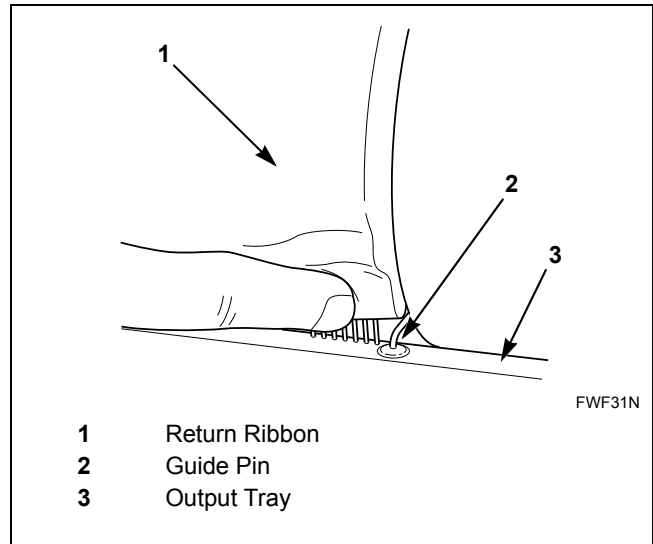

Figure 36
12. Verify that new return ribbon is placed in between the guide pins of output tray in front of machine. Refer to *Figure 36*.